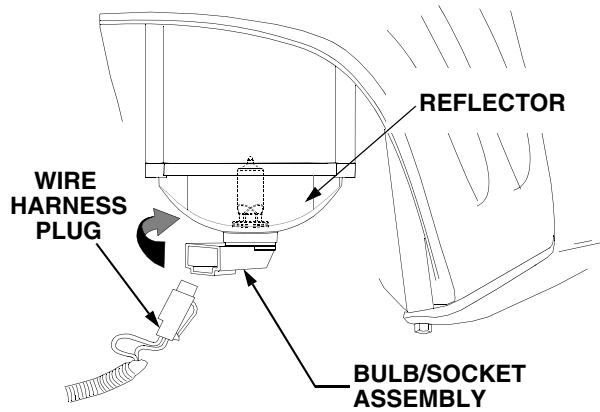

Figure 36
- Pull the wire harness plug from the bulb/socket assembly to unplug the wire harness. See Figure 36.